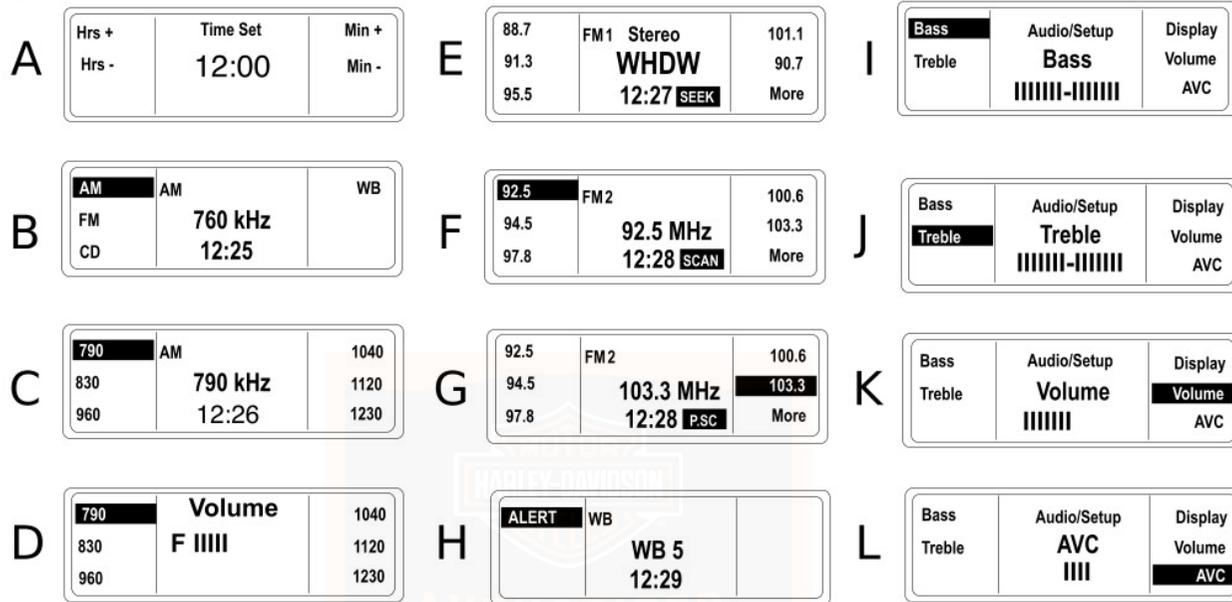

Figure 23. LCD Display Examples
See A in Figure 23. To increase the hours in the display press the Hrs+ soft key. To decrease hours press the Hrs- soft key. When the hour is correct, release the soft key.
See B in Figure 23. The LCD highlights the selected band.
See D in Figure 23. At any time the receiver is playing, the volume can be adjusted by pressing the **AUDIO** switch up (+) to increase volume or down (-) to decrease volume.
See E in Figure 23. Normally, the Advanced Audio System plays FM signals in stereo. The LCD will indicate **STEREO**.
See H in Figure 23. Broadcast by the National Oceanic and Atmospheric Administration (NOAA) National Weather Band (WB) frequencies are available in North America only.
See E in Figure 23. In SEEK, the radio tunes in to the next strong station.
See F in Figure 23. Press and hold the **MODE SEL** switch **UP** or **DN** approximately 5 seconds to scan the band for strong station signals. Each strong station remains tuned in for 8 seconds before the radio scans to the next station. The receiver will continue to scan until cancelled.
See C in Figure 23. AM can store 6 preset frequencies.
See E and F in Figure 23. Separate FM1 and FM2 bands allow the rider to store 2 sets of 5 preset FM frequencies (10 total). Use the **More** soft key to toggle between FM1 and FM2. The full range of FM frequencies can be selected in either FM1 or FM2.
See G in Figure 23. In preset SCAN, the radio continuously tunes from one preset station to the next until the preset SCAN is cancelled. A P.SC icon will display while preset SCAN is active.
See D in Figure 23. Volume is adjusted with the **AUDIO** switch on the left hand grip. Using left thumb, press the **AUDIO** switch up (+) to raise the volume or down (-) to lower the volume. The LCD displays the word Volume and a bar graph that changes length with the volume.
See K in Figure 23. Volume can also be adjusted in Audio/Setup.
BASS: See I in Figure 23. Press **AUDIO** to display Bass Audio/Setup. Using the left thumb, press the **AUDIO** switch up (+) to increase the bass range or down (-) to lower the bass range. The LCD displays the word Bass and a dashed line that changes length with the setting. The short center dash indicates a middle setting.
TREBLE: See J in Figure 23. From Bass Audio/Setup, press and release **AUDIO** to sequence to Treble. Using the left thumb, press the **AUDIO** switch up (+) to increase the treble range or down (-) to lower the treble range.
See J in Figure 23. The LCD displays the word Treble and a bar graph that changes length with the setting. The short center dash indicates a middle setting.
See L in Figure 23. Automatic Volume Control (AVC) automatically adjusts volume level to compensate for ambient noise associated with motorcycle speed.